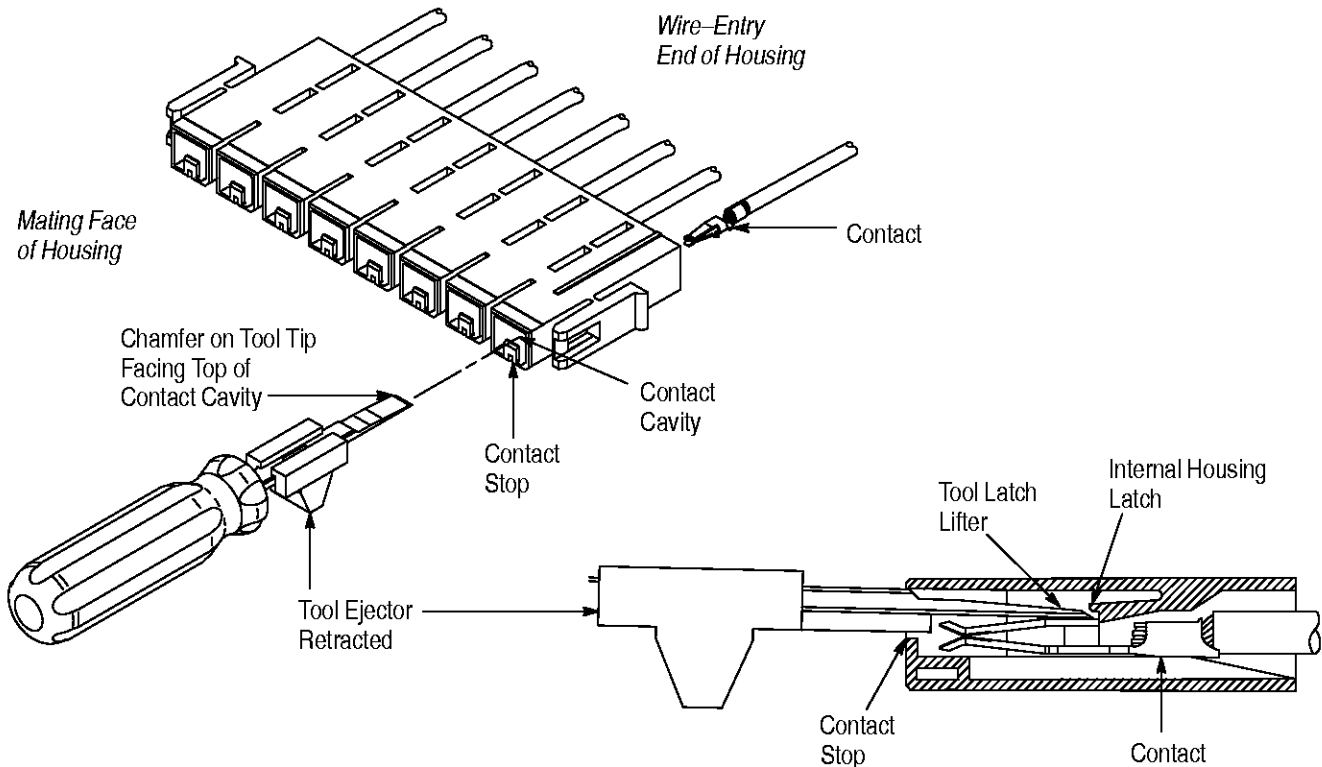

Figure 2
3. EXTRACTION PROCEDURE (Figure 2)